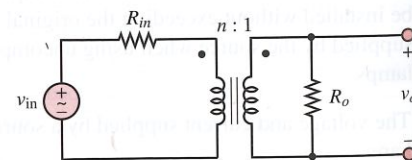

Figure P7.47
7.47 For Figure P7.47, assume the transformer is ideal. Find the step-down turns ratio $M = n$ that provides maximum power transfer to R_o . Let $R_{\text{in}} = 1,200 \Omega$, $R_o = 100 \Omega$, and $v_{\text{in}}(t) = V_{\text{pk}} \cos(\omega t)$.